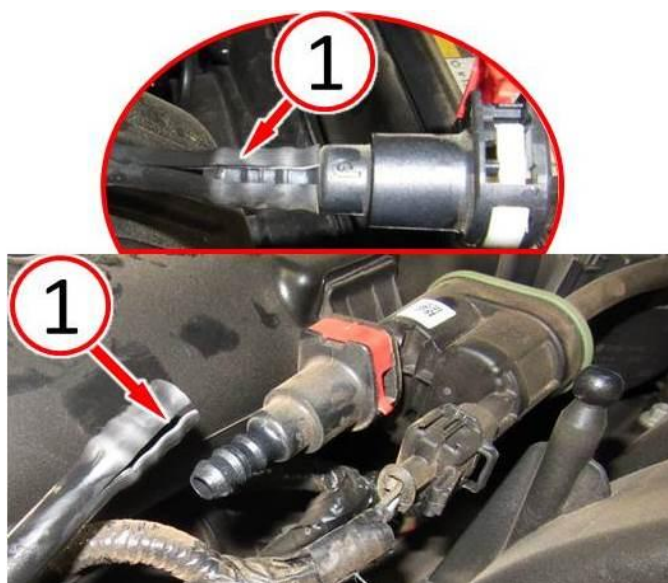

Fig. 1 Split Purge Valve Hose
2. Inspect the purge valve hose for any splits as shown in (Fig. 1).